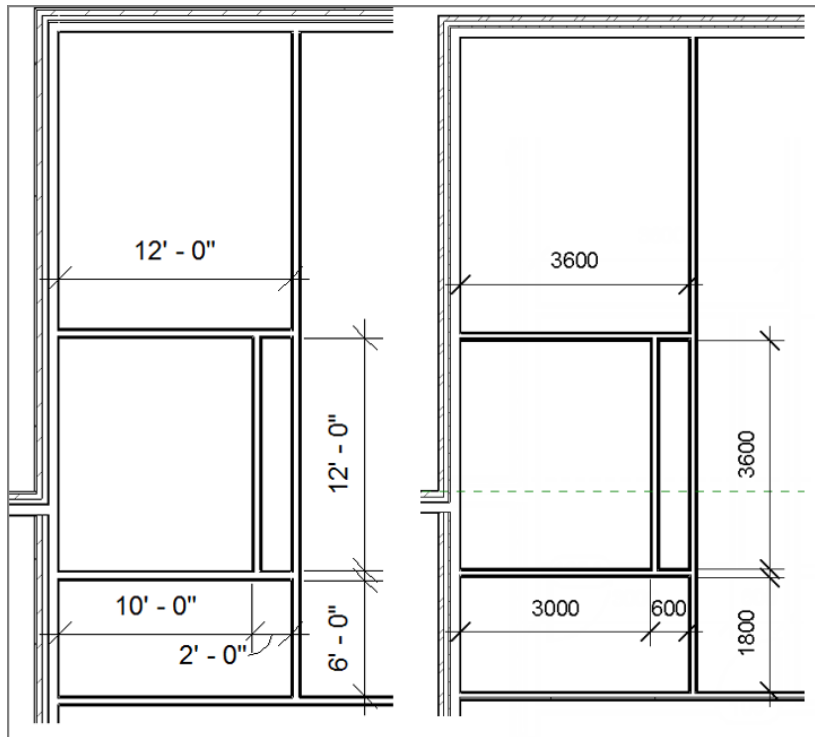

FIGURE 2.37: The lavatory at the west side of the building
The next step is to add the lavatories. These will show up at the west end (left side) of the building. Refer to Figure 2.37 for the dimensions, and follow along:
2. Look at your options, and create the lavatories shown in Figure 2.37. All of the dimensions are taken from the finish inside face.